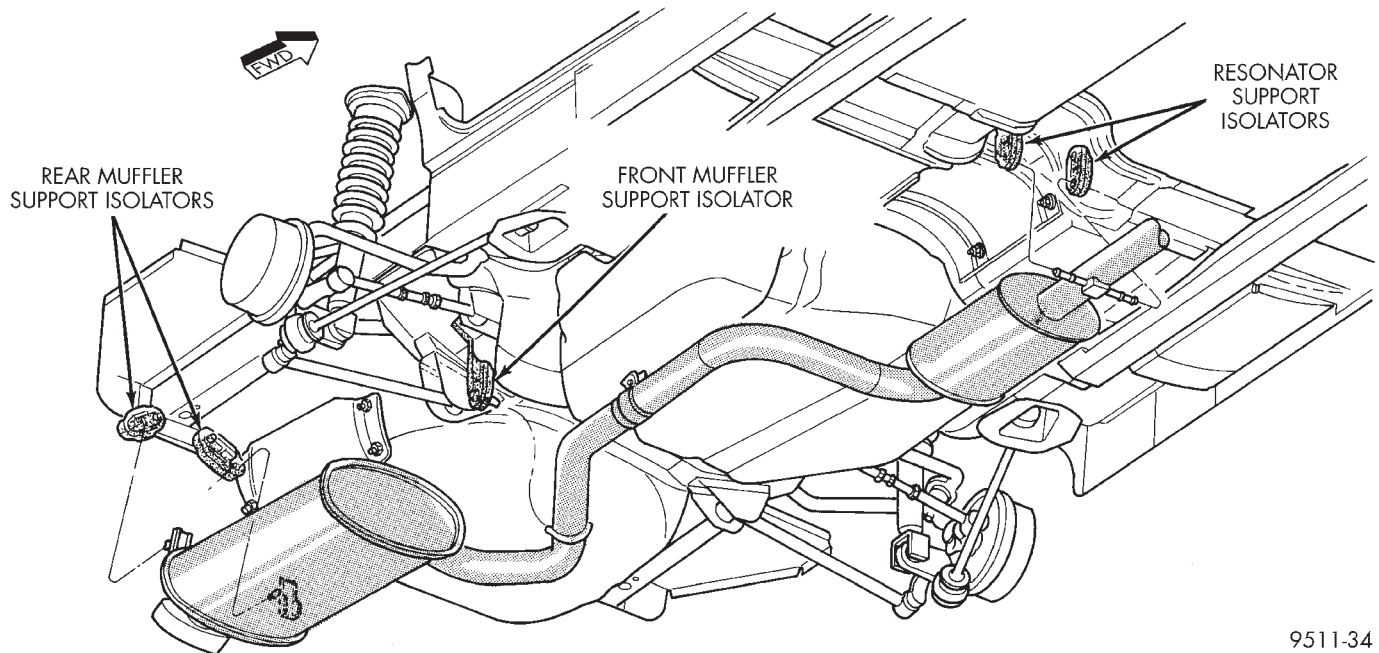

Fig. 25 Exhaust System Support/Isolator Locations
- (d) Remove all exhaust system support/isolators from the vehicle's exhaust system (Fig. 25). Remove support/isolators from brackets on exhaust system components and leave attached to body of vehicle.